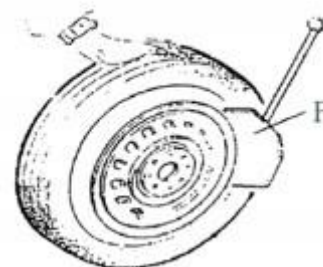

Fig 5
Ensure to exhaust the air in the tyre completely, place the tyre against the rubber buffer (S). Bring the shovel (F) against the bead about 10mm from the edge of the rim shown as **Fig 5**. Depress Bead breaker Pedal (U) to push paddle into tyre. Repeat the above operations on different positions around the tyre and both sides of tyre until tyre bead is released completely.